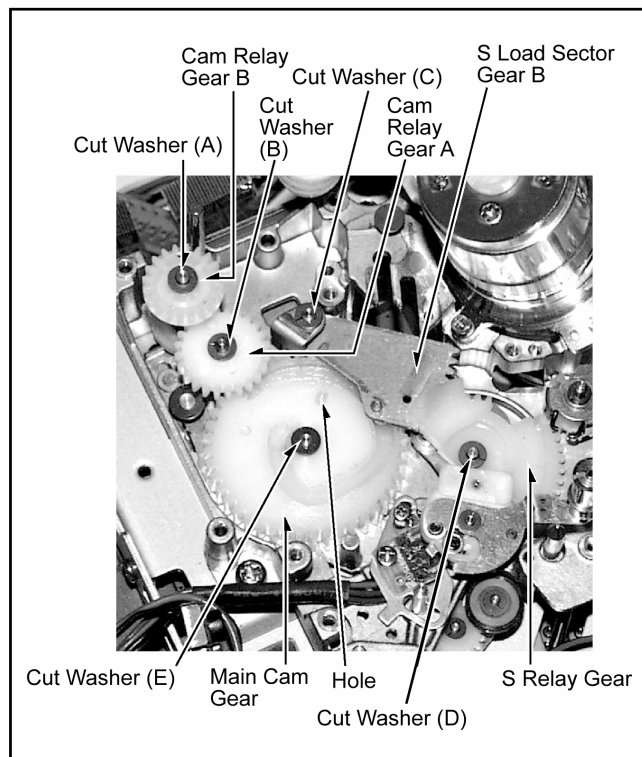

Figure 2-10
3. Turn the Cam Relay Gear B to clockwise as shown in figure 2-10, and place the unit to Loading completion condition.
7. Remove the Cut Washer (A) as shown in figure 2-10, and remove the Cam Rely Gear B.
8. Remove the Cut Washer (B) as shown in figure 2-10, and remove the Cam Rely Gear A.
9. Remove the Cut Washer (C) as shown in figure 2-10, and remove the S Load Sector Gear Unit.
10. Remove the Cut Washer (D) as shown in figure 2-10, and remove the S Relay Gear.
11. Remove the Cut Washer (E) as shown in figure 2-10, and remove the Main Cam Gear .